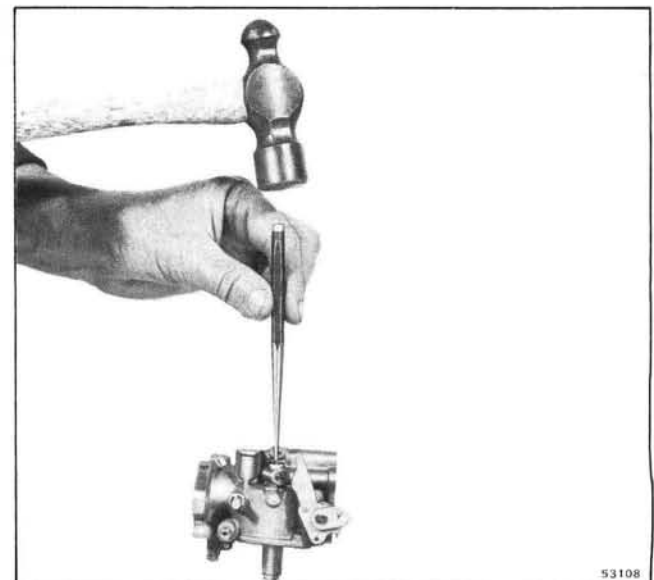

Figure 3-20. Seating Lead Shot
a. If leakage is slight, a smart tap with a hammer in the center of the lead shot will normally correct this condition. See Figure 3-20.